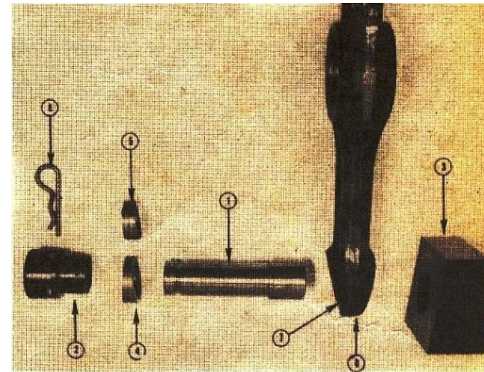

Fig. 1-31. Piston pin and bushing mandrel set
- Use the ST-1285 Mandrel to remove worn bushing (Fig.1-31). Remove the tool.
- To install the standard size bushing (7) in rod: assemble the bushing (7) on the mandrel (1) position sleeve (4), then the cup (2) on the mandrel (1). Hold in position with the locking pin (6).
- Put the connecting rod on the block (3) and support it in horizontal position.
- Align the sleeve (4) with the middle of the boss on the rod.